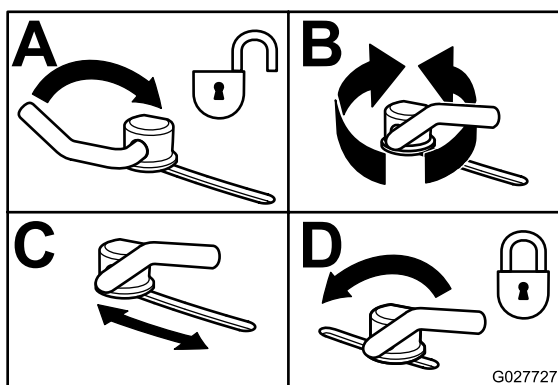

Figure 31
3. To adjust the cam locks, swing the lever up to loosen the cam lock (Figure 31).
5. Swing the lever back over to tighten the baffle and cam locks (Figure 31).